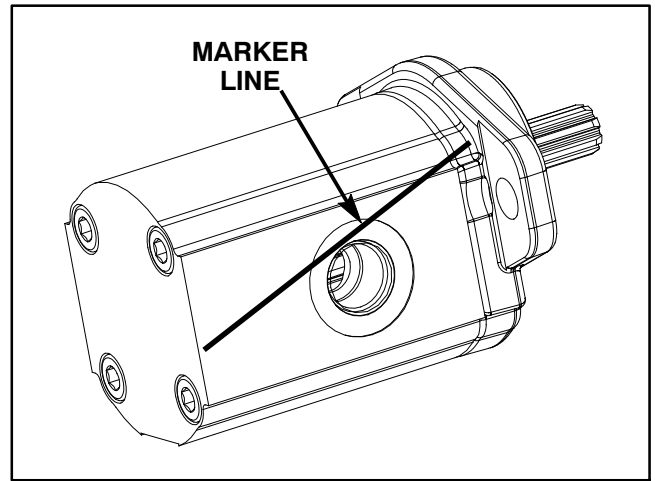

Figure 91
2. Use a marker to make a **diagonal** line across the front flange and body for assembly purposes (Fig. 91).